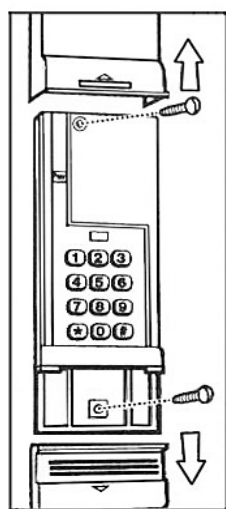

Fig. 2
- Step 1-2** Slide Keypad Cover up and pull off of Wireless Keypad. Slide off battery cover and remove battery. **Fig. 2**